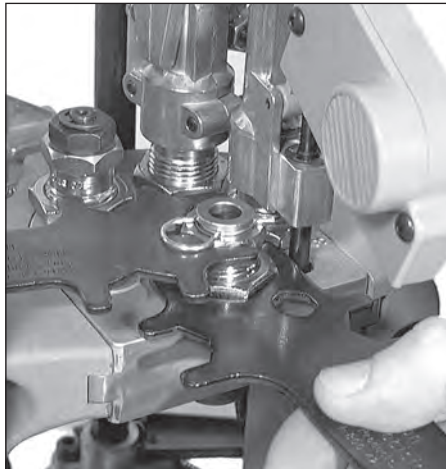

FIG 67
4. Once you have obtained the proper OAL, replace the cartridge into Station 4 and raise the platform. Using a 1" wrench to turn the locking and a 7/8" wrench to hold the die body, snug the locking FIG 67.